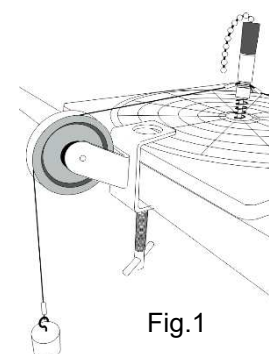

Fig.1
2. Thread the longer string through the pulley to hang a weight (50 g x 1 pc) from the ring of the string (see Fig.1).